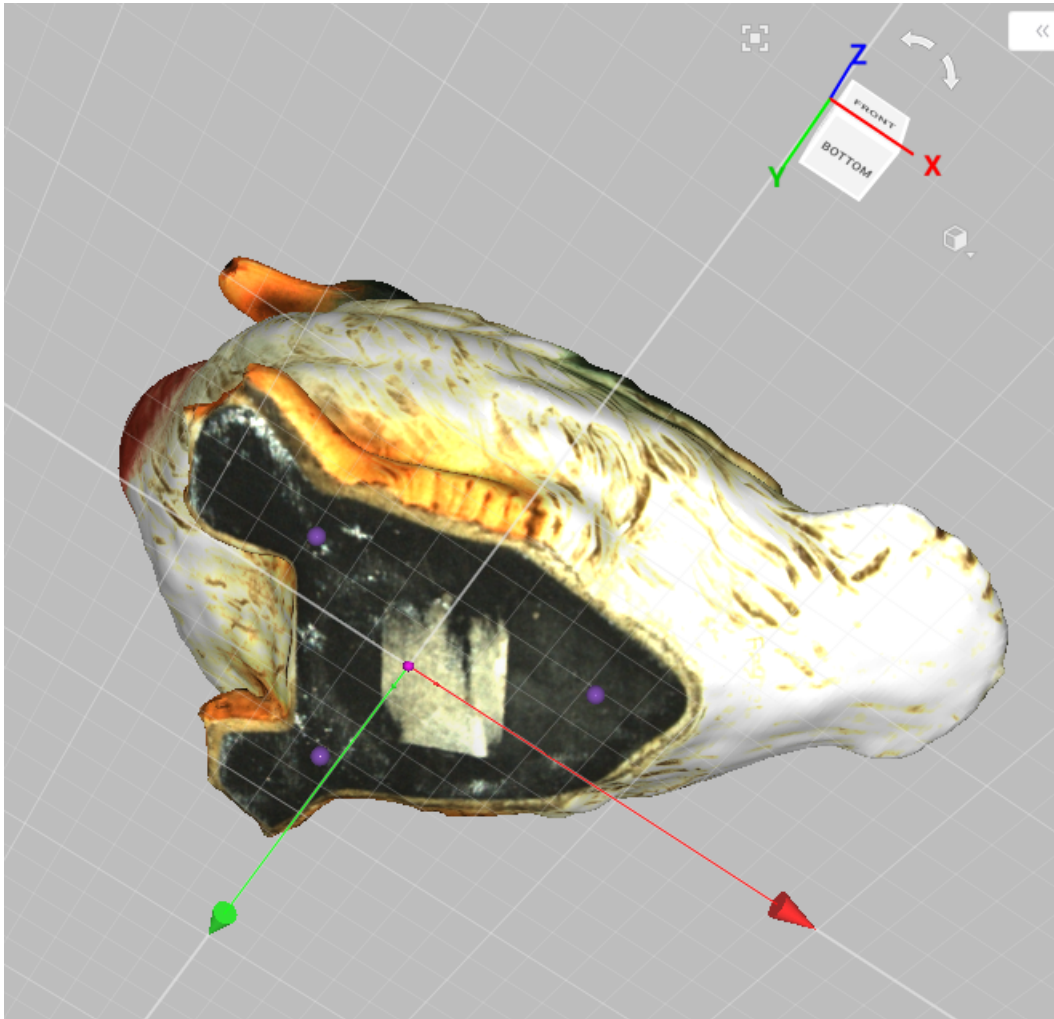

Figure 128: Positioning the model in the global coordinate system.
5. Use **LMB** to specify at least three points on the surface; the plane will automatically pass through their center of mass (see Figure 128). The following conditions will then apply: